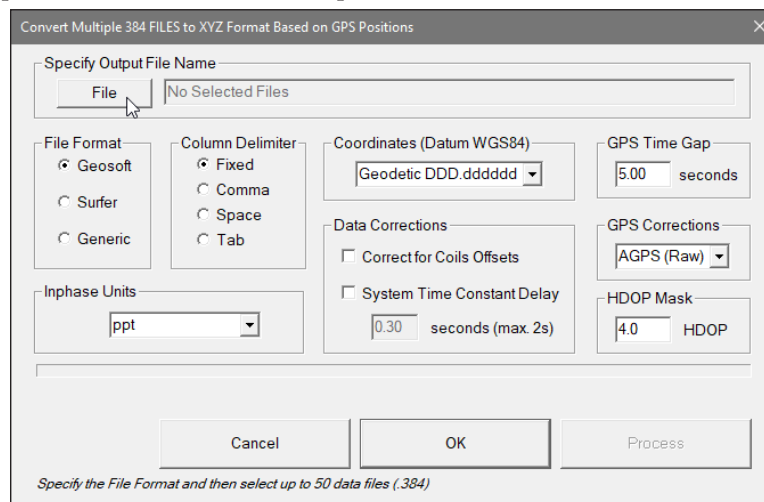

Figure 2.4 Convert Multiple EM38-4 Files to XYZ Format dialog
3. **Convert Multiple EM38-4 Files (.384) to XYZ File Format** - This option opens a dialog window (Figure 2.4). Chapter 7 (Export Data Files to XYZ Format) provides a detailed explanation of its parameters. Users can select up to 50 files for conversion.